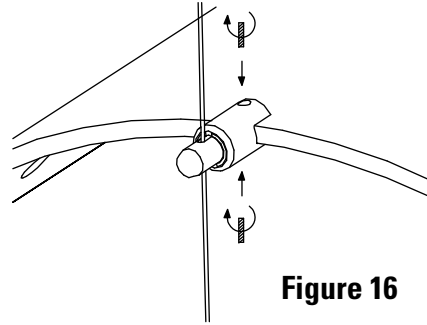

Figure 16
- C. Slide cable balancing assembly to the highest point of the lens and tighten set screws. (Fig. 16) Do not over tighten.